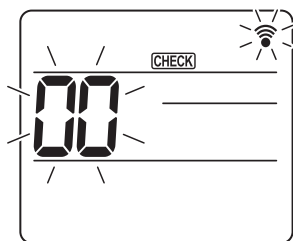
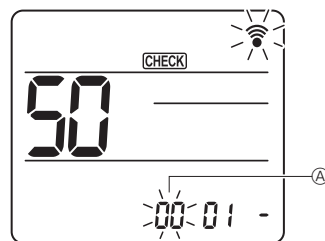
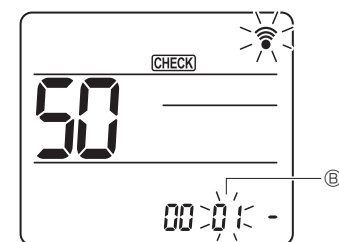
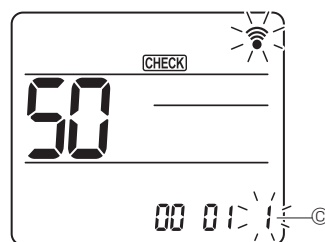

Fig. 7-16
Fig. 7-17
Fig. 7-18
Fig. 7-19
### 7.4.2. By wireless remote controller (Fig. 7-16, Fig. 7-17, Fig. 7-18, Fig. 7-19)
(Start this operation from the status of remote controller display turned off.) [CHECK] is lighted and "00" blinks. (Fig. 7-16)
- ② Setting the unit number
- Press the [DOWN] button to set unit number ①. (Fig. 7-17)
- ③ Select a mode
- Press the [DOWN] button to set Mode number ②. (Fig. 7-18)
- ④ Selecting the setting number
- Use the [DOWN] button to change the Setting number ③. (Fig. 7-19)
- ⑤ To select multiple functions continuously
- Repeat select ③ and ④ to change multiple function settings continuously.
- ⑥ Complete function selection